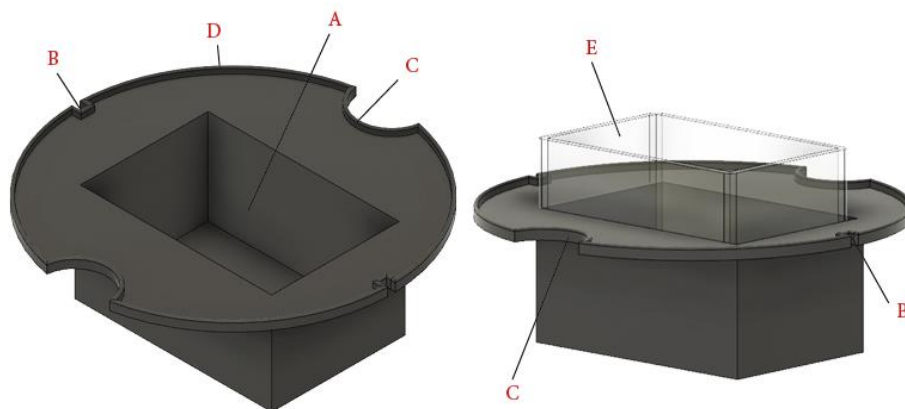

Figure 10
- The reservoir case is built to carry the nectar reservoir (Fig. 10, E) while also forming a protective barrier between the electronic components at the bottom and the artificial nectar located at the top.
- The case is supported by beams on the stem and is kept in the right position by notches (Fig. 10, B) that fit in protrusions of these beams.
- Crescent notches (Fig. 10, C) at both sides of the nectar reservoir case ensure a passage for the cables from the servomotor, infrared sensor and emitter attached to the bottom of the background plane running towards the electronics compartment at the bottom of the stem.
- A rim (Fig. 10, D) is provided on the edge of the reservoir case to prevent spill-over nectar from the nectar reservoir to seep into the electronics compartment underneath. In the latest updated version of the 3D-design, these edges have been made higher than is seen in Fig. 10.
- For this prototype an off-the-shelf reservoir with inside dimensions of 56 × 36 × 44 mm (L × B × H) was used, giving it a volume of 88.7 ml (Fig. 10, E).